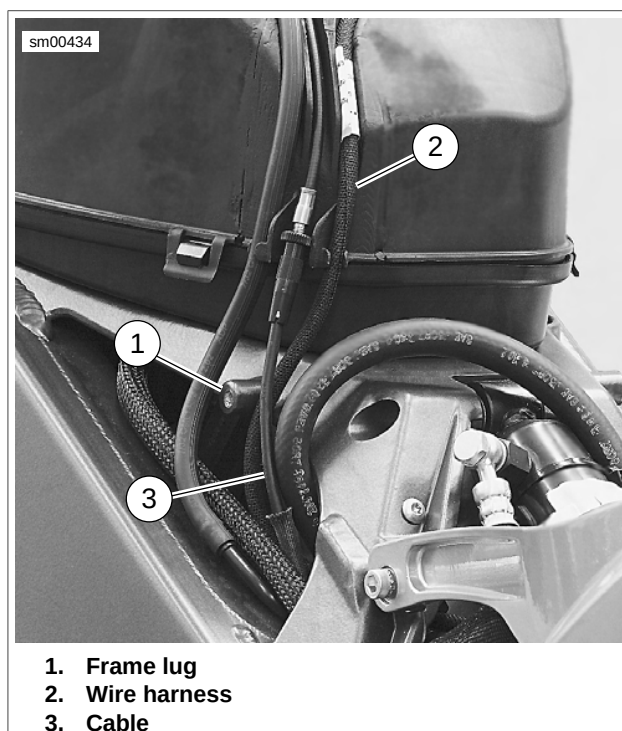

Figure 7-108. Correct Cable Routing Behind Frame Lug (Typical)
3. See Figure 7-108. Verify that the interactive exhaust cable (3) is routed behind the frame lug (1) before installing air intake cover.